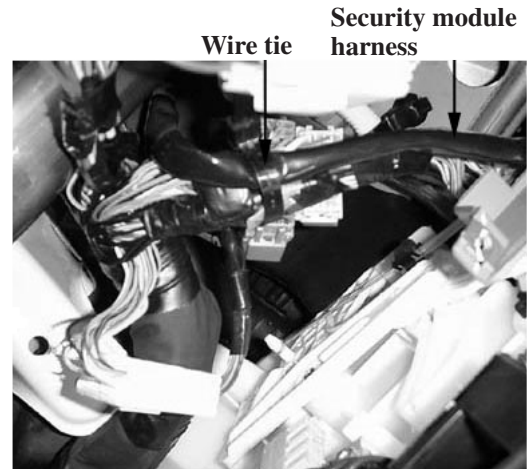

Figure 10
12. As shown in Figure 10, insert the female connector of the extension harness into the security module 18-pin (white housing) connector.